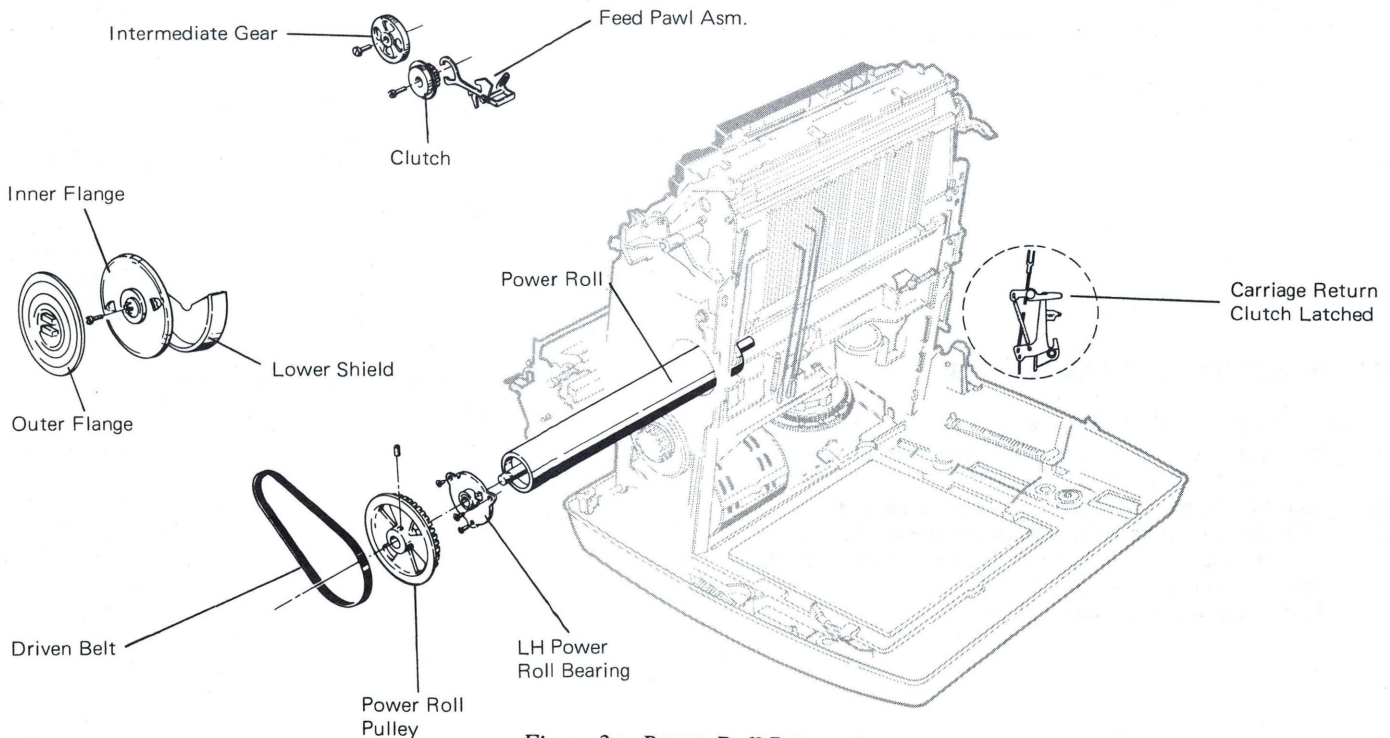

Figure 3 – Power Roll Removal
2. Remove the power roll pulley and driven belt (Figure 3).